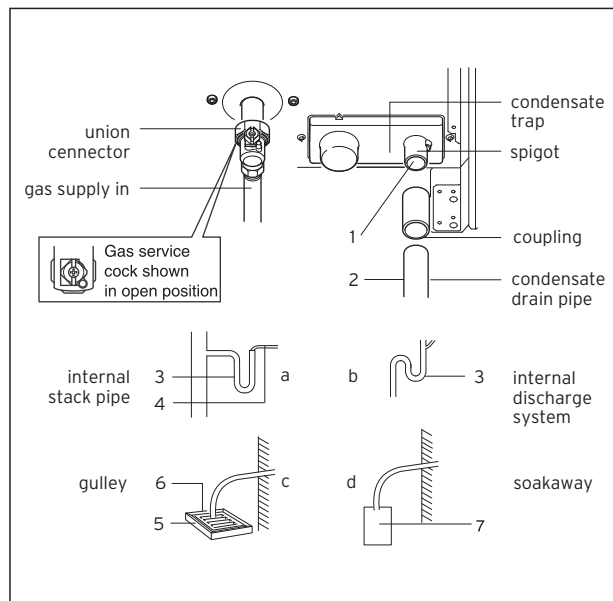

Fig. 4.5 Gas and condensate connections
The gas supply can be connected from below, or through the wall at the rear of the boiler. See fig 4.5. and refer to section 3.4. The whole of the gas installation, including the meter, should be inspected, tested for soundness and purged in accordance with the current issue of BS6891 and in IE the current edition of I.S.813 "Domestic Gas Installations".
Refer to fig 4.5. The condensate drain connection is at the underside rear of the boiler. The condensate drain is suitable for use with standard overflow pipe and couplings do not use adhesive when connecting to the spigot (1) The condensate drain pipe (2) should be plastic. The condensate is discharged periodically in 'slugs' by siphonic action. It is not necessary to provide air breaks or extra traps in the discharge pipe as there is already a 75 mm high trap inside the boiler. Fitting an extra trap may cause the boiler siphon to work incorrectly. Refer to BS5546 or BS6798 for advice on disposal of boiler condensate.
- Termination in a gully (5) below grid level (6) and above the water level. The external pipe length should be kept as short as possible to minimise the risk of freezing and should not be more than 3 metres.
- At a condensate absorption point (soak away) (7). The external pipe length should not be more than 3 metres.